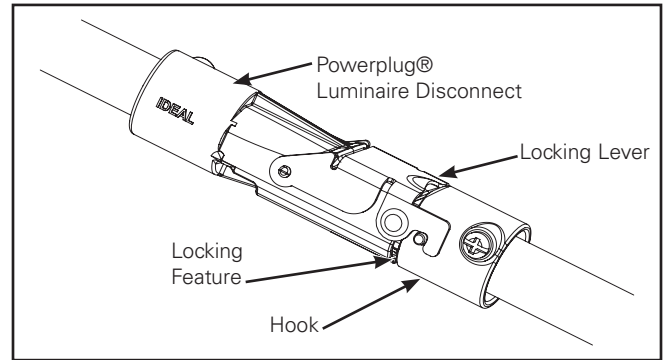

Figure 8.
- Locking lever on quick disconnect must be latched as shown (Figure 8.).